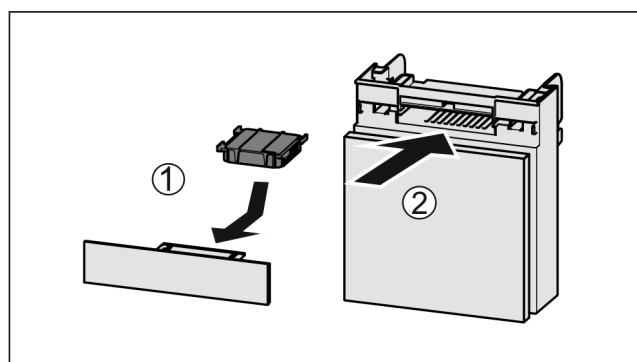

Fig. 178
- Insert the carbon filter as shown in the diagram Fig. 178 (1).
- Push the compartment in Fig. 178 (2).